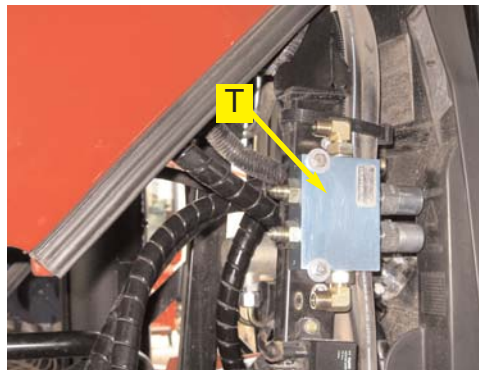

Figure 7b. Installed counter-balance valve.
- c. Use the provided hardware in group (G) to attach the counter-balance valve block to the hood support. (Figure 7b.)